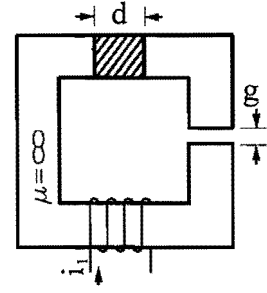

Fig. Q1-1
**Q1, 20 pts:** It is desired to achieve a time-varying magnetic flux density in the air gap of the magnetic circuit of Fig. Q1-1 of the form: